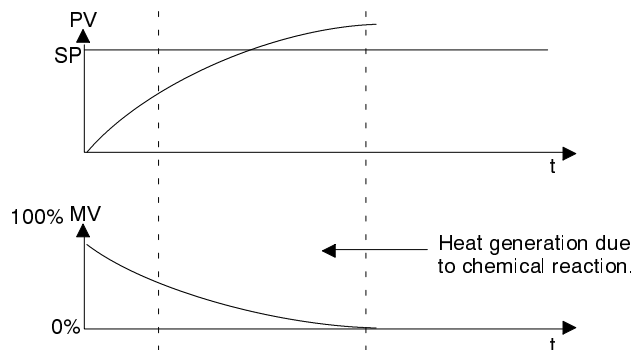

Figure 3
The temperature inside the autoclave continues to rise due to the chemical reaction of the process. Even if the controller's output (manipulated variable or MV) is off, the temperature will continue to increase beyond the setpoint. For this reason, a cooling source is required to keep the temperature constant. In Figure 3 we show an exothermic process with a zone indicated where the MV has been reduced to zero (heating source shut off). However, because of the heat generated from the chemical reaction, the Process Variable (PV) continues on an uncontrolled rise.